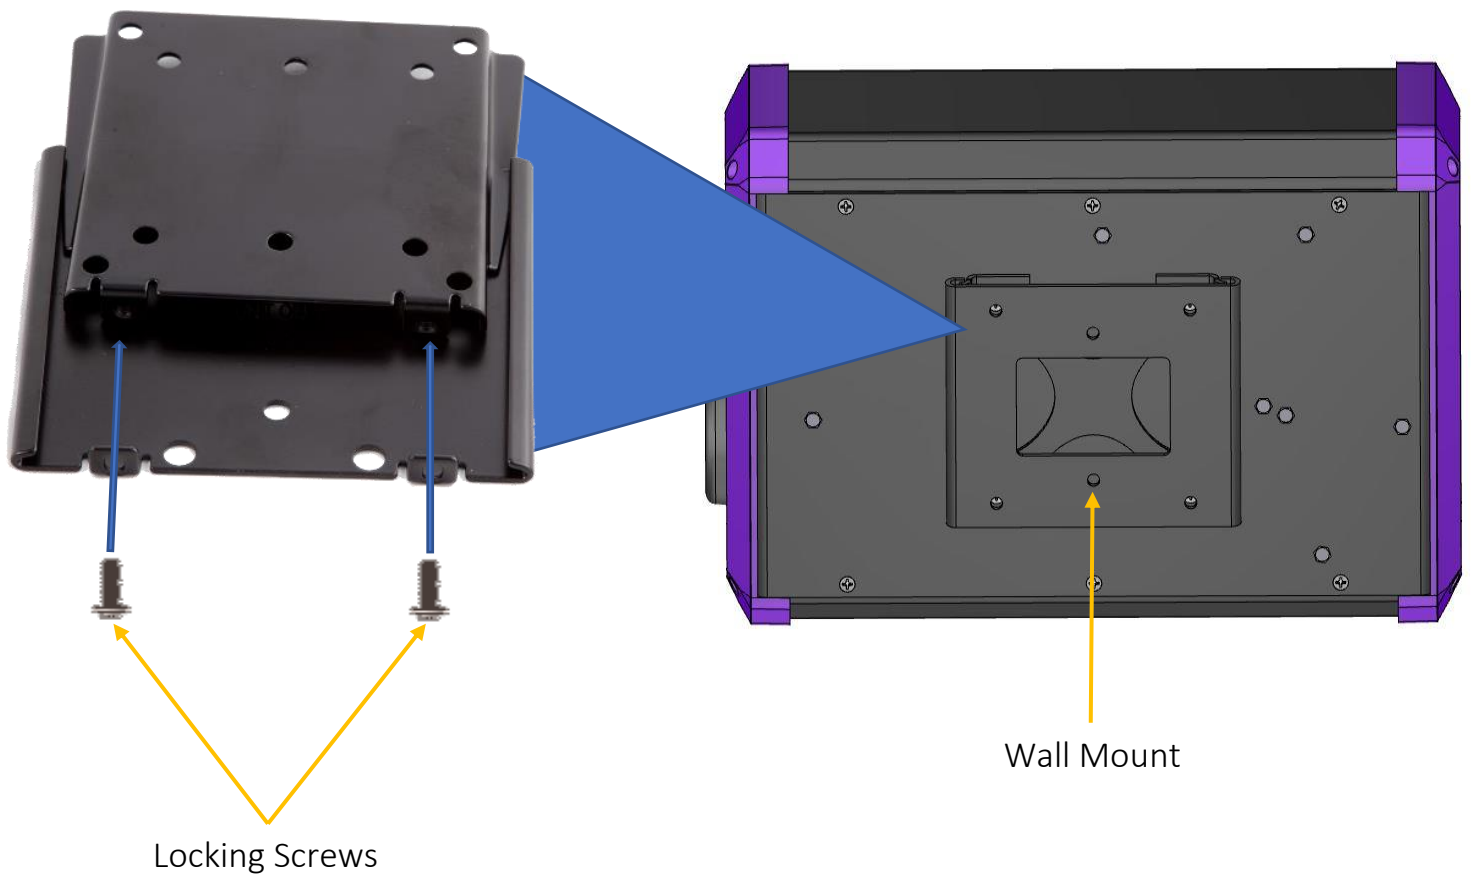

Fig 1.
2. Remove the wall mount section of the Vesa mount that came preinstalled on the back of the CID 75k. This is done by removing the two Phillips screws located on the bottom of the bracket as seen in Fig 1.
## 11 Installation Procedure Fig 1